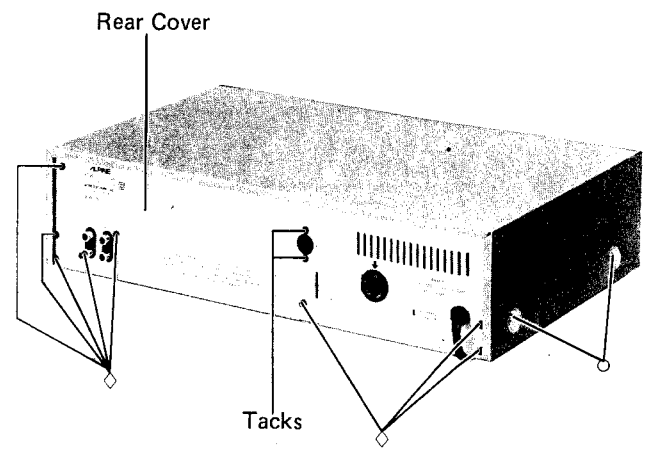

Figure 4
- (1) After removal of top cover, remove eight screws marked "◇" as shown in Figure 4.
- (2) Removal two tacks as shown in Figure 4.